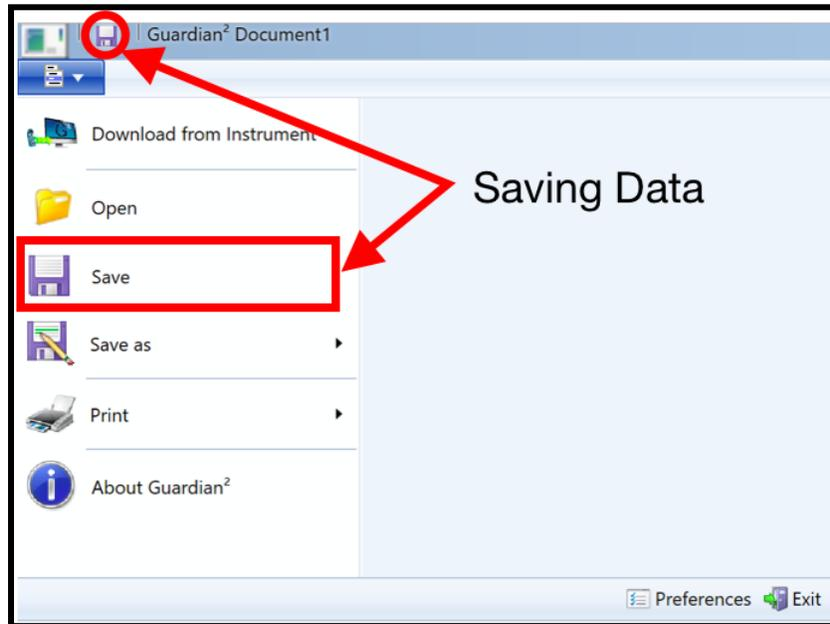

Figure 33
- 1) Click the Quick Access "**SAVE**" button at the top left corner of the active Data Window (Figure 33).
- 2) Select the "**SAVE**" command under active Data Window's File Control Menu (Figure 33).